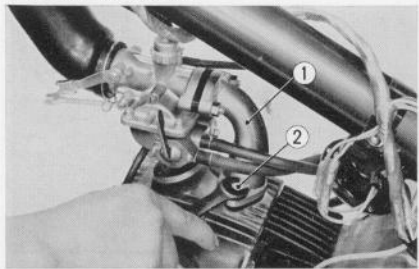

Fig. 3.6 Removing the inlet pipe
5. Disconnect the air inlet pipe at the cylinder head. (Fig. 3.6)